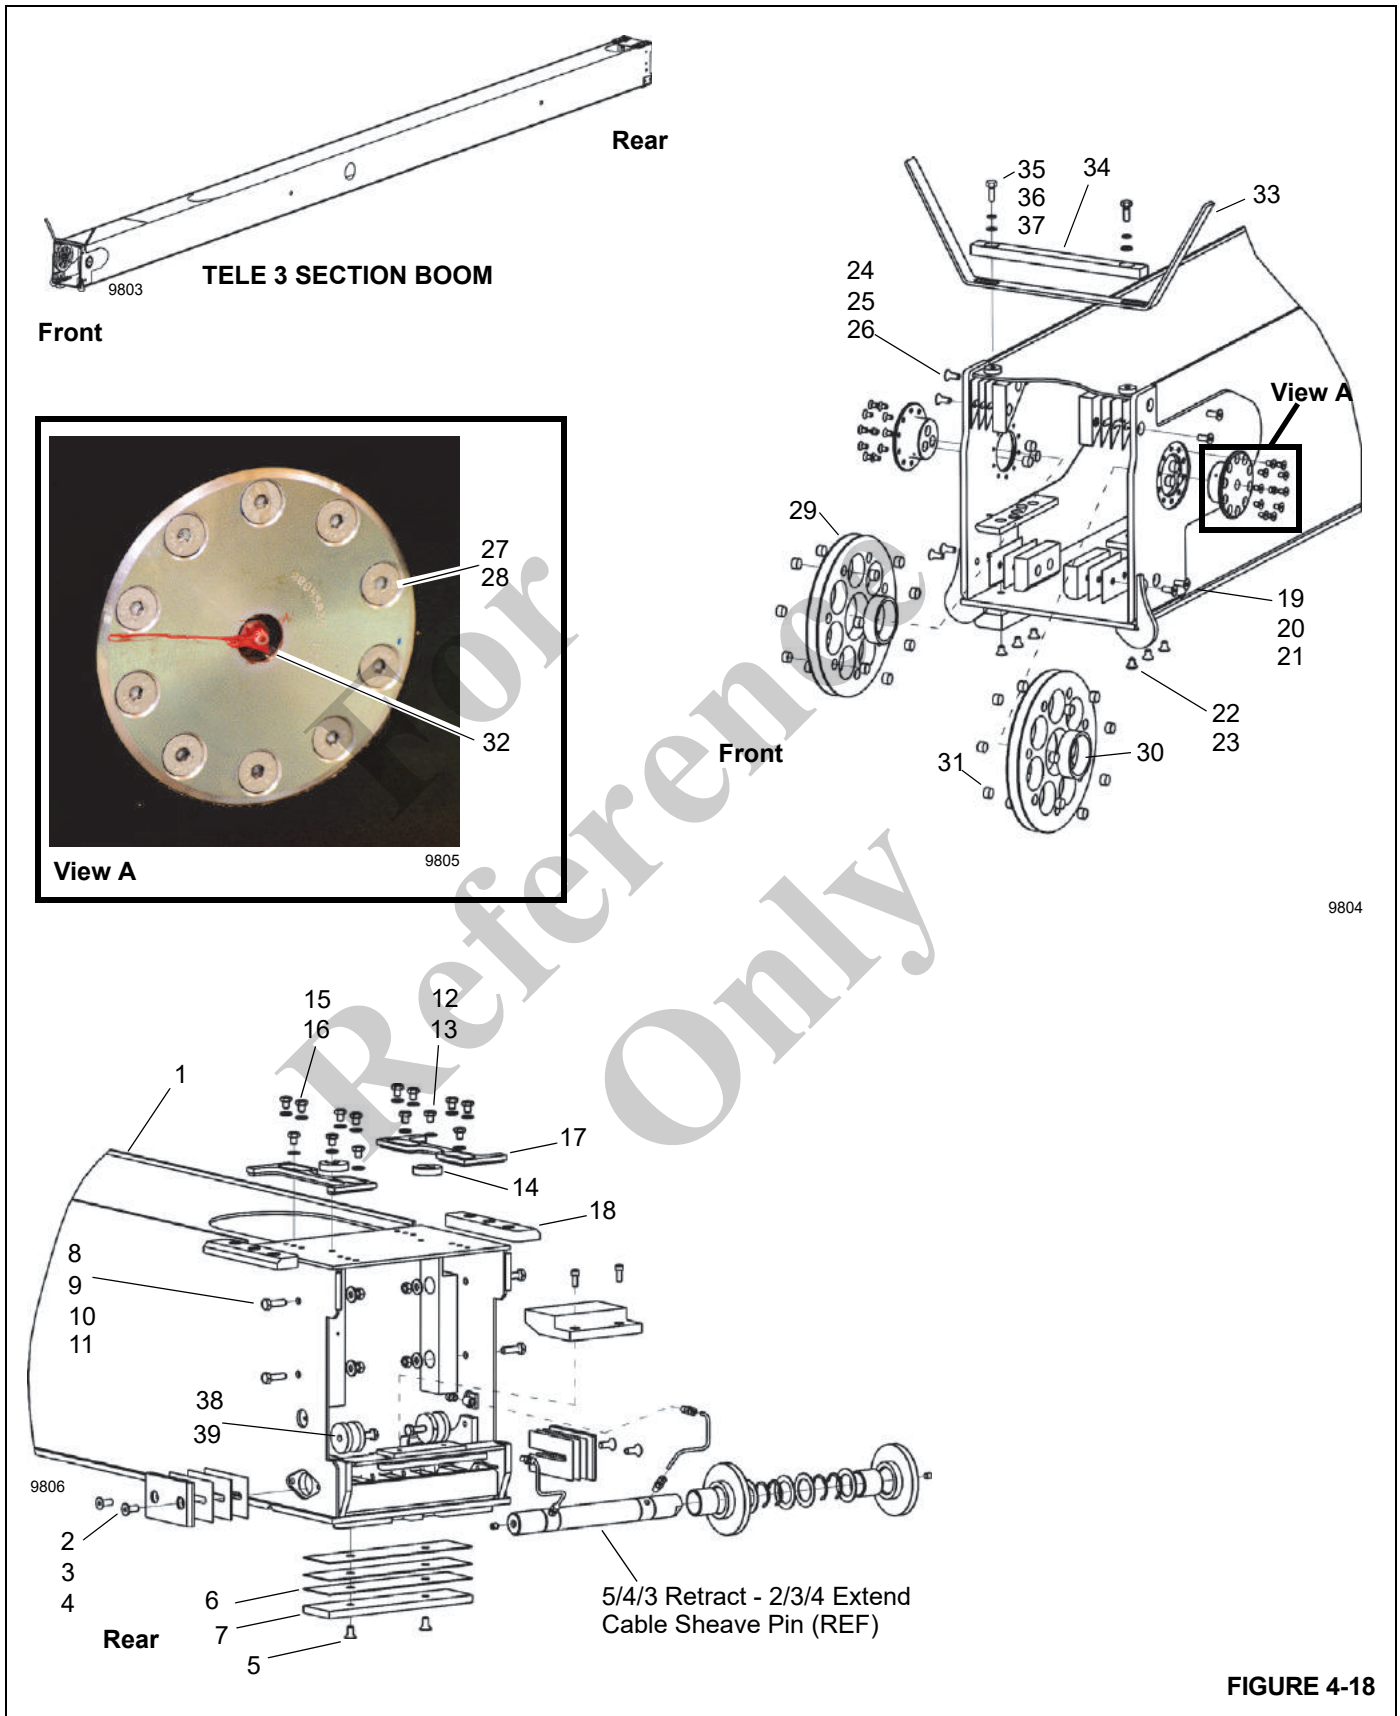
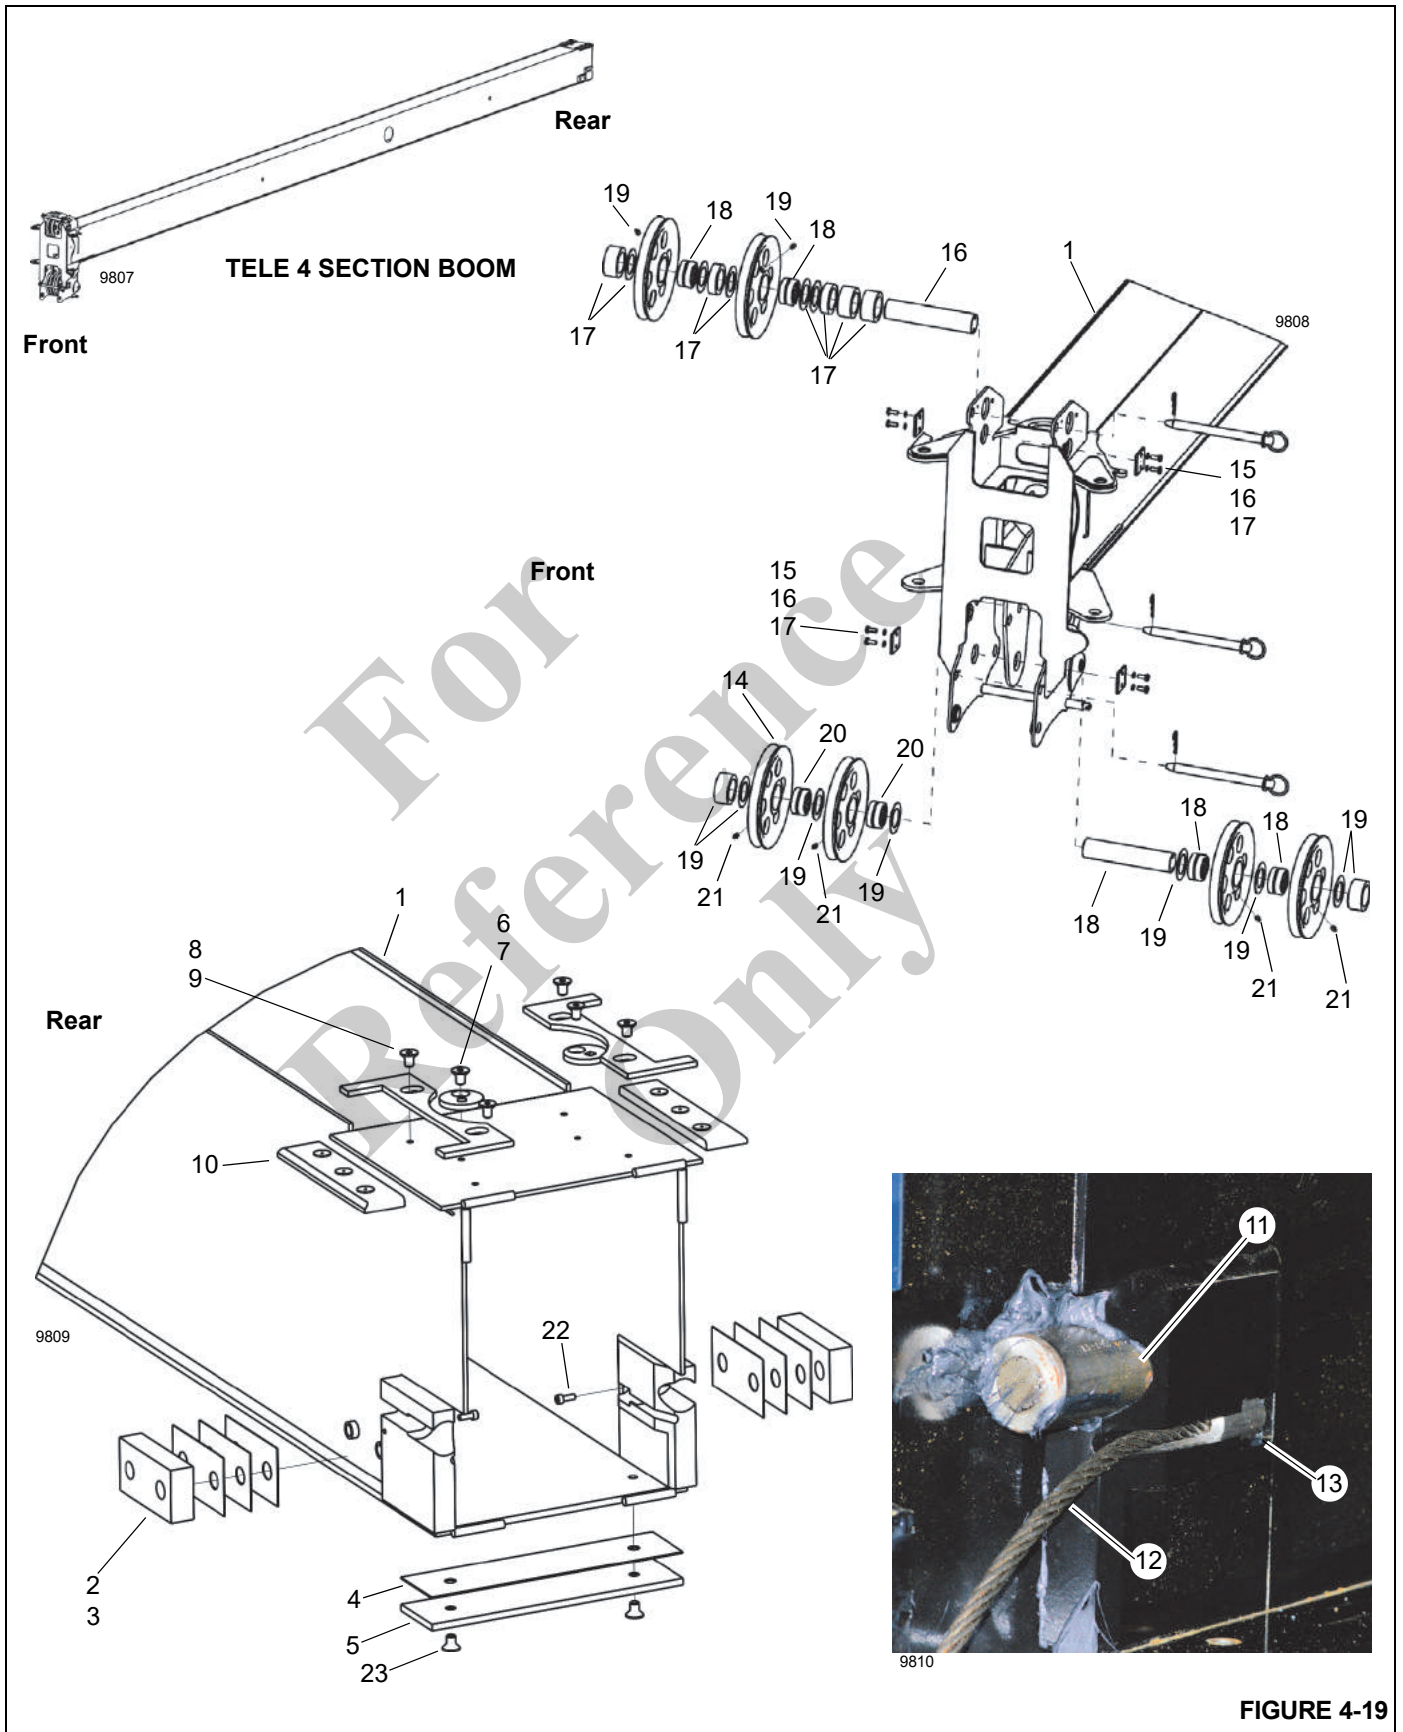

FIGURE 4-18
FIGURE 4-19
Use the following procedure to disassemble and remove Tele 4 section boom from the Tele 3 section boom (1, Figure 4-18).
1. Remove and tag capscrews (2), shims (3), and wear pads (4) from the sides of the Tele 3 section boom (1).
2. Remove and tag capscrews (5), shims (6), and wear pad (7) from the bottom of the rear of the Tele 3 section boom (1).
3. Remove and tag nuts (8), washers (9), capscrews (10), and wear pads (11) from inside the Tele 3 section boom (1).
4. Remove and tag capscrews (12), washers (13), and rear wear pad cam plates (14) as needed from the Tele 3 section boom (1).
5. Remove capscrews (15), washers (16), wear pad plate weldment (17), and wear pad (18) as needed from the Tele 3 section boom (1).
6. Attach a sling or chain to the tip of the Tele 4 section boom (1, Figure 4-19) and pull Tele 4 section boom out approximately 1828 mm (6 ft).
7. Remove and tag side capscrews (19, Figure 4-18), shims (20), and wear pads (21) from the tip of the Tele 3 section boom (1).
8. Remove and tag capscrews (22) and bottom wear pads (23) from the tip of the Tele 3 section boom (1).
9. Remove and tag capscrews (24), shims (25), and wear pads (26) from the top of the Tele 3 section boom (1).
10. Remove sockethead capscrews (27) from 3/4/5 extend sheave pins (28) and remove 3/4/5 extend sheave pins while removing 3/4/5 extend sheaves (29).
13. If necessary, tag and remove wear pads (3, Figure 4-19) and shims (2) from the rear of the Tele 4 section boom.
14. If necessary, tag and remove capscrews (23), wear pads (5), and shims (4) from the rear of the Tele 4 section boom.
15. If necessary, tag and remove capscrews (6) and rear wear pad cam plates (7) from the top rear of the Tele 4 section boom (1).
16. If necessary, tag and remove capscrews (8), wear pad plate weldment (9), and wear pads (10) from top rear of the Tele 4 section boom.
17. Remove 3/4/5 extend cables (11) from the anchor plates at the bottom base of the Tele 4 section boom and store in an area where they will not be damaged during further boom disassembly.
18. Remove loadline sheaves (14) if desired, by removing capscrews (15), lockwashers (16) and the keeper (17) from the sheave pins (18) and lightly tapping the pin while removing sheaves (14) and spacers (19) until all sheaves are removed from boom tip.
Table 4-4 Tele 3 Section Boom Figure 4-18 Item List
Table 4-5 Tele 4 Section Boom Figure 4-19 Item List
1. Assemble and then install sheaves (14, Figure 4-19) and bearings (20) into the boom nose sheave case.
4. Raise the Tele 4 section boom against top of the Tele 3 section boom and install wear pads (23, Figure 4-18) and capscrews (22) into the bottom tip of the Tele 3 section boom. Lower the Tele 4 section boom onto wear pads in the Tele 3 section boom.
1. Install 3/4/5 extend sheave pins (28) and bearings (30) into 3/4/5 extend sheaves (29). Install wear plugs (31) into holes on each side of extend sheaves. Loop 3/4/5 extend cables (11, Figure 4-19) around 3/4/5 extend sheaves (29, Figure 4-18) and install 3/4/5 extend sheaves into the Tele 3 section boom. Install retaining capscrews (27) into 3/4/5 extend sheave pins (28) and torque. Install grease fittings (32) into the center of the 3/4/5 extend sheave pins (28).
2. Install upper side wear pads (26) with shims (25) and capscrews (24). Install the lower side wear pads (21) with shims (20) and capscrews (19) on front inside of the Tele 3 section boom.
3. Install the cable guide (33) with wear pad (34) and related hardware (35, 36, and 37) on the top front of the Tele 3 section boom. Push Tele 4 section boom into the Tele 3 section boom until top wear pads on base of Tele 4 section boom (10, Figure 4-19) are accessible through the access hole in the rear of the Tele 3 section boom. Center the Tele 4 section boom within the Tele 3 section boom, then adjust the top wear pads according to the calibration instructions in this section. Push the Tele 4 section boom completely into the Tele 3 section boom keeping 3/4/5 extend cables taut and scribe a mark in the tip of the Tele 4 section boom in front of side wear pads on the Tele 3 section boom for retract sequencing (Figure 4-31).
5. Push button ends of 5/4/3 retract cables (12, Figure 4-19) through openings in the bottom base of the Tele 3 section boom and drape button ends out of the back of the Tele 3 section. Pull threaded ends of 5/4/3 retract cable (12) towards tip of boom. Install 5/4/3 retract-2/3/4 extend pin (21, Figure 4-16) into retainer at
base of Tele 3 section boom. Loop 5/4/3 retract cables (12, Figure 4-19) over pin (21, Figure 4-16) and install button end of 5/4/3 retract cables (13, Figure 4-19) into anchor plates at the bottom base of the Tele 4 section boom. Secure with setscrews (22).
**NOTE:** Use caution to keep 5/4/3 retract cables (12, Figure 4-19) taut, not crossing cables and keeping all cables clear of pinch points created by slings and bottom pads.
4. Assemble 5/4/3 retract cable keepers (18) onto 5/4/3 retract cables (12, Figure 4-19), double nut just beyond flat at threaded end of retract cables and assemble at bottom tip of Tele 2 section boom.